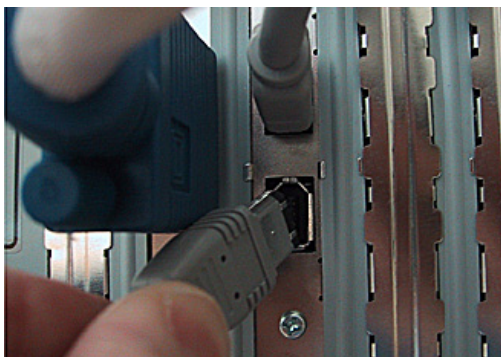

Figure 4-1: Connecting the UltraLite to the computer.
- 2 Plug one end of the UltraLite FireWire cable (included) into the FireWire socket on the computer as shown below in Figure 4-1.
- 3 Plug the other end of the FireWire cable into the UltraLite I/O as shown below in Figure 4-1.